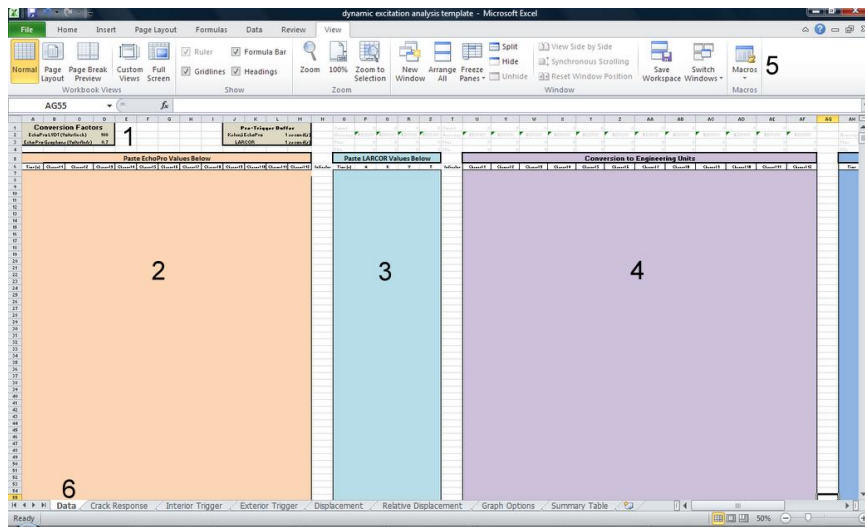
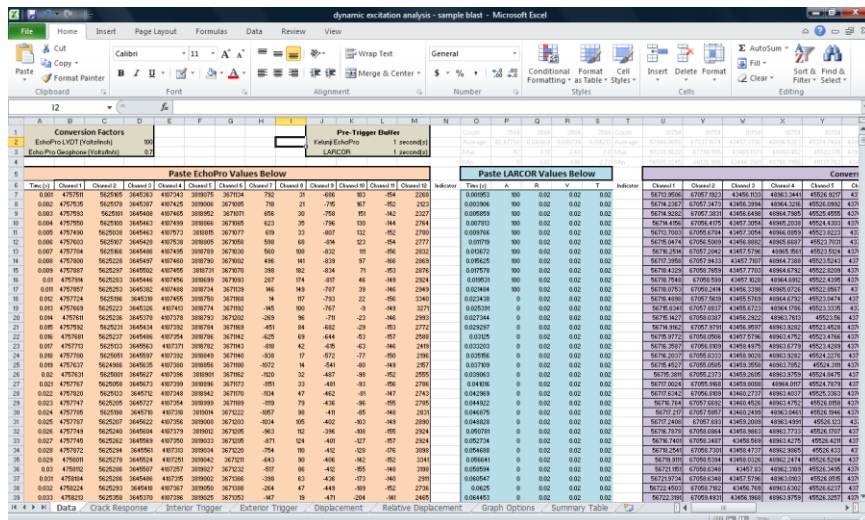

Figure 42: Dynamic Template with Important Regions Numbered
Figure 43: Dynamic Template with Data Inputted
****Note:** Figure 42 and Figure 43 show the empty and completed templates respectively. These figures should be referenced as needed.